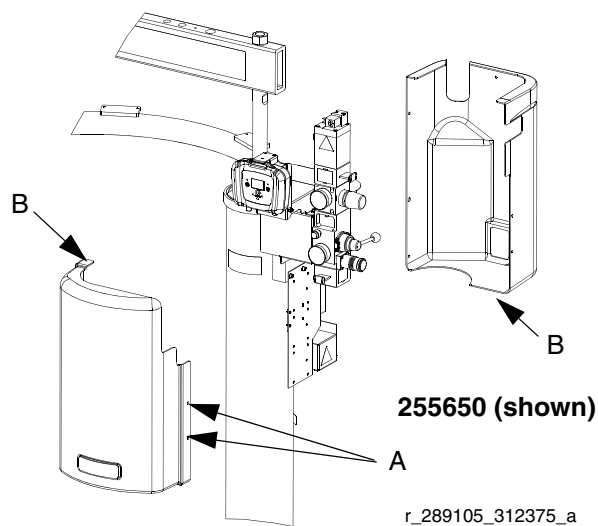

FIG. 1
2. Remove shrouds. See FIG. 1.
5. Remove back cover from 2-button interlock assembly (130).